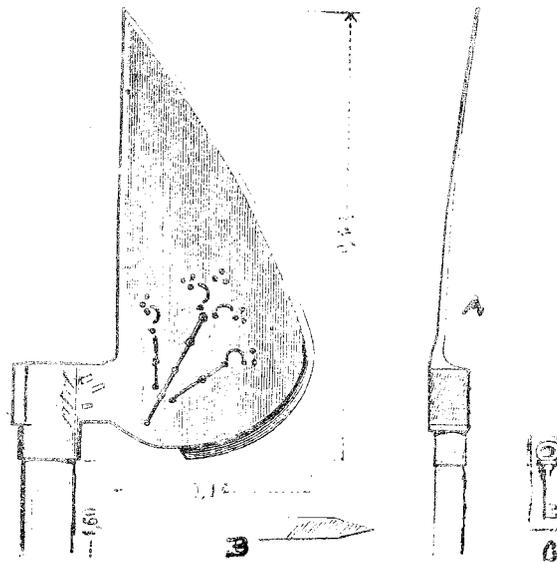

Figure 2
Shown in Figure 2 is an almost identical type of axe that was used as a weapon. It is described and illustrated by M. Viollett-Le-Duc, Dictionnaire Reasonne du Mobiler Francaise (Paris, 1871).
Figure 2 shows the bit (C) inserted in the end of the "socket" and held "as is usual" by a horizontal thumb screw (E). The patent specifications point out that in this position the bit has a longer reach.